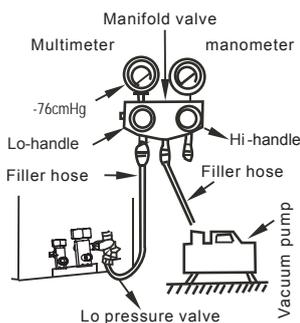

Fig. 6-4
- Use a vacuum pump to expel the air (Fig.6-4): (For method of using the manifold valve, see the operation manual of manifold valve)